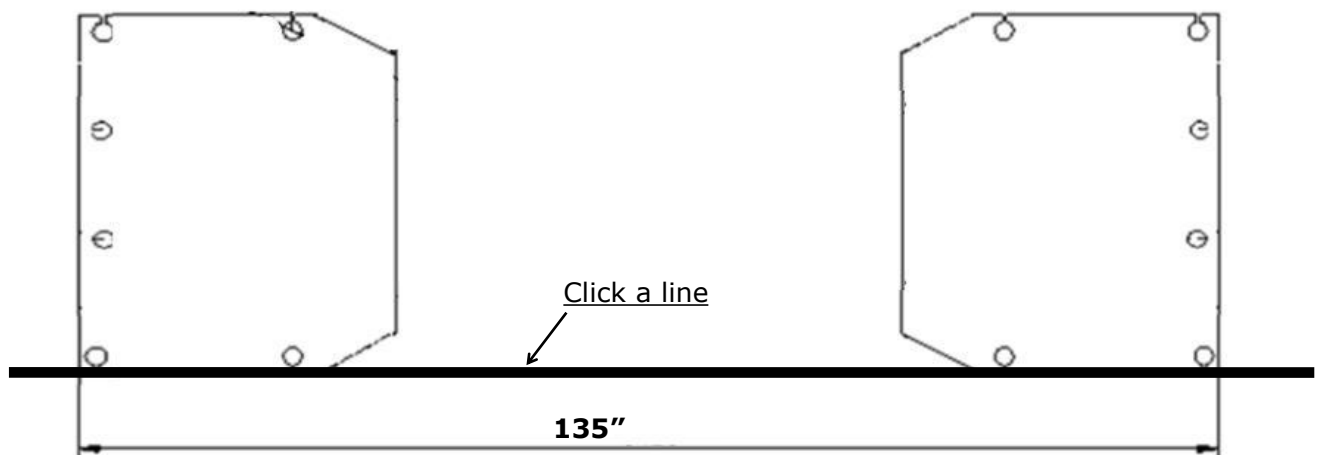

Fig.10
B. Use a carpenter's ink marker line to establish installation layout of base-plate (See Fig.10).